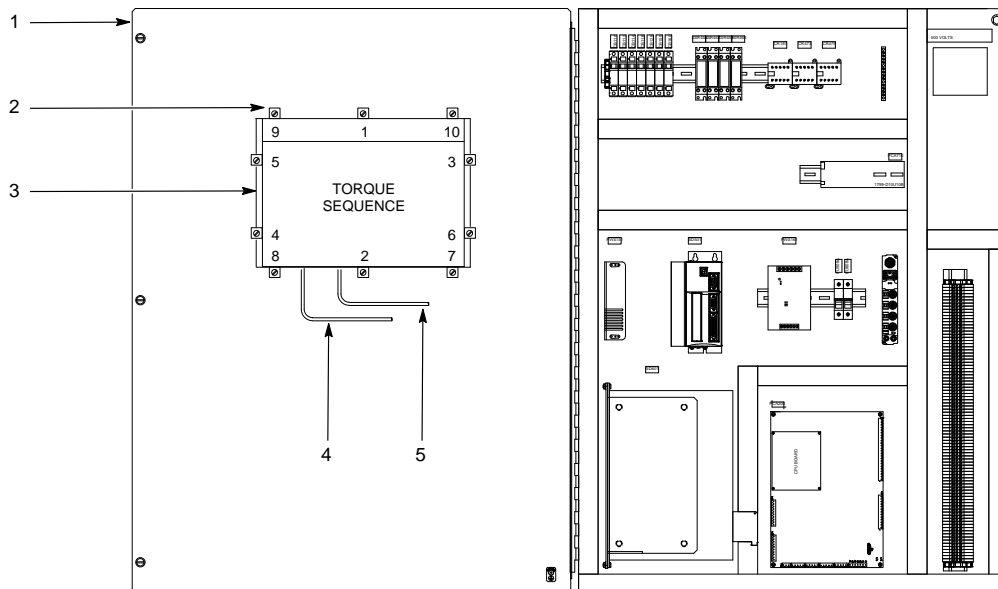

Figure 5 Operator Interface and PCA Replacement
2. See Figure 5. Open the enclosure door (1).
3. Disconnect the AC (4) and Serial (5) cables from the operator interface (3).
4. Remove the mounting clips (2) securing the operator interface to the enclosure door. Remove the operator interface from the enclosure door.
6. Install the new operator interface into the enclosure door (1).
7. Install the mounting clips (2). Using the torque sequence shown in Figure 5, tighten the mounting clips to 10 in.-lb (1.1 N·m). To prevent flexing the touchscreen, do not overtighten the clips.
8. Connect the AC (4) and Serial (5) cables to the operator interface, being careful to install the serial cable to the com port it was removed from.
9. Close the enclosure door (1).
2. See Figure 5. Open the enclosure door.